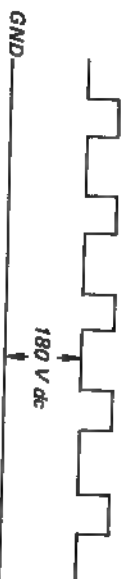

Fig. 3-5.
1. Adjust BKG VRs (RV702, RV704, and RV706) so that voltages on the red, green and blue cathodes are 180 V dc with an oscilloscope as shown in Fig. 3-5.